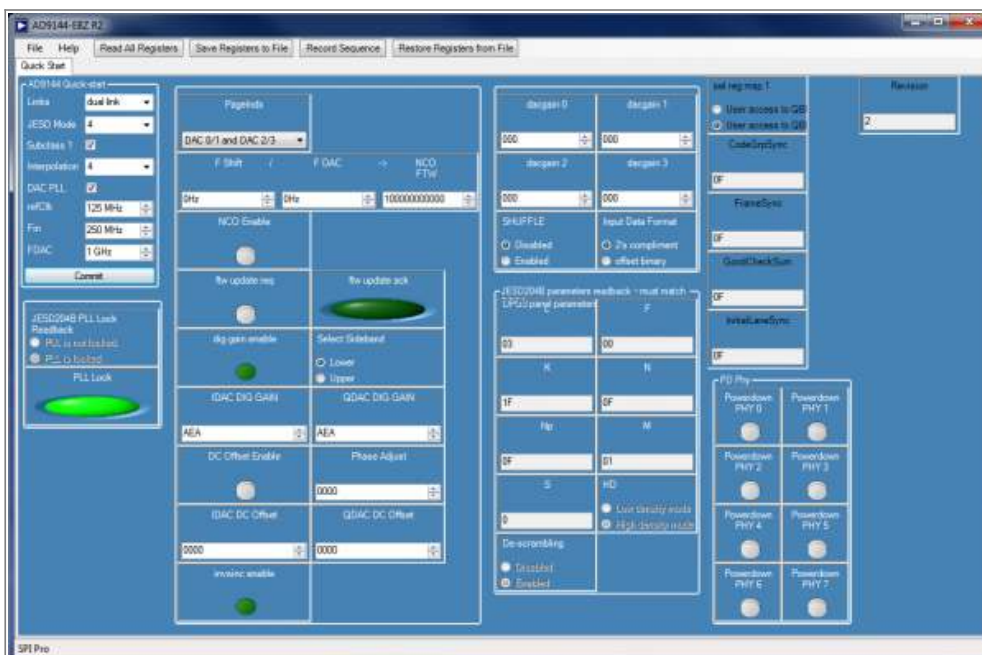

Figure 5. Entry Screen of the AD9144 SPI software
1. Open the AD9144 SPI application (Start > All Programs > Analog Devices > AD9144 > AD9144 SPI). The screen should look similar to Figure 5.
a. Open the AD9144 customer SPI software and go to the Quick Start tab (See Figure 5). The parameters in top left corner need to be selected in the Quick Start List shown in the panel below. The Links should be set to dual link, mode which is interface mode set to 4, Subclass 1 box checked, Interpolation set to 4, the DAC PLL box checked, refCLK = 125MHz, Fin = 250Mhz and FDAC set to 1000 MHz.